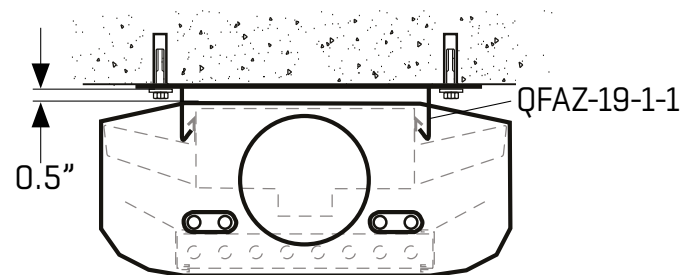

FIGURE 11
- 2) Snap the NOVA II IQFI into the low-build fastening brackets. (See **FIGURE 11**)